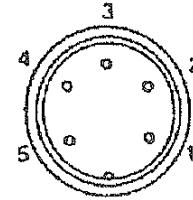

Fig.1
See Fig. 1. It should be between 43Ω and 58Ω .
- (3) Measure the resistance value between pins 4 and 5 (the heating element). See Fig. 1. It should be between 2.5Ω and 3.5Ω .